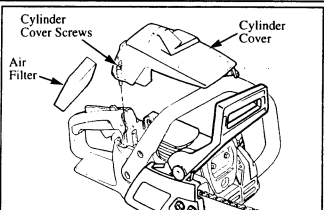

Figure 33
1. Remove the cylinder cover screws and cylinder cover. Figure 33.